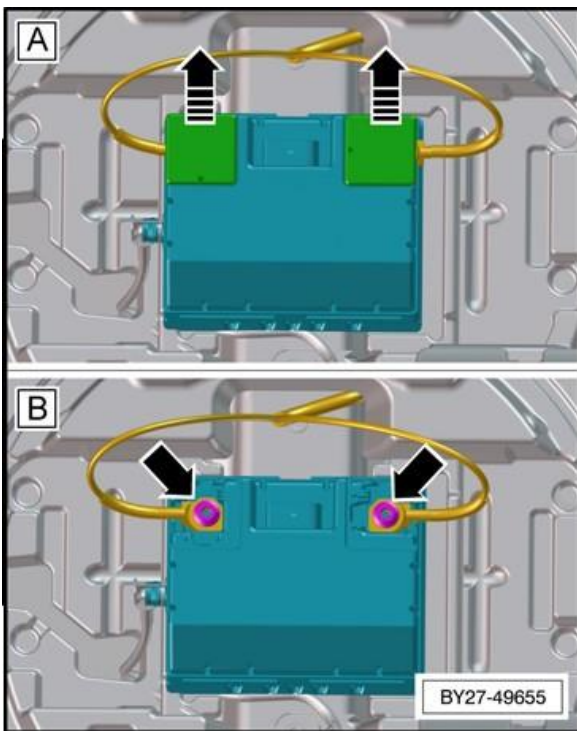

Figure 1
- Referring to Rep.Gr 27 - Check the security of the super capacitor positive and negative terminals (Figure 1) as follows:
- Remove the caps (A) from the terminals
- Check the security of the positive and negative terminals (B) are as described within Rep.Gr 27